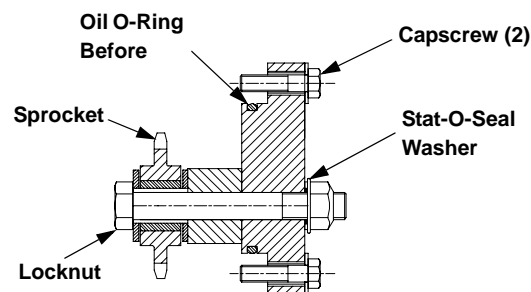

FIGURE 5-8 ECCENTRIC VERNIER - CHAIN IDLER SPROCKET (SELF-ALIGNING SPROCKET) - TYPICAL
1. A typical chain idler sprocket is shown in Figure 5-8 on page 5-14.